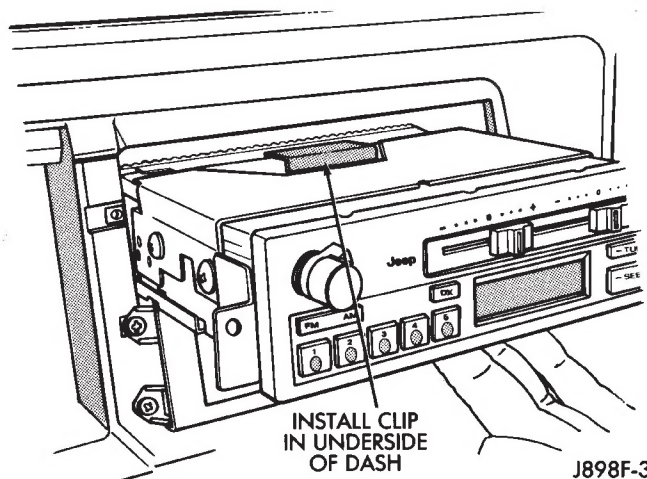

Fig. 7 Radio Clip Install - XJ
- (6) To install radio, route harness above and to the right of the radio cavity. Make radio harness, ground and antenna connections.
- (7) While installing the radio, make sure that dip on top of radio (Fig. 7) is installed in mating slot of instrument panel.